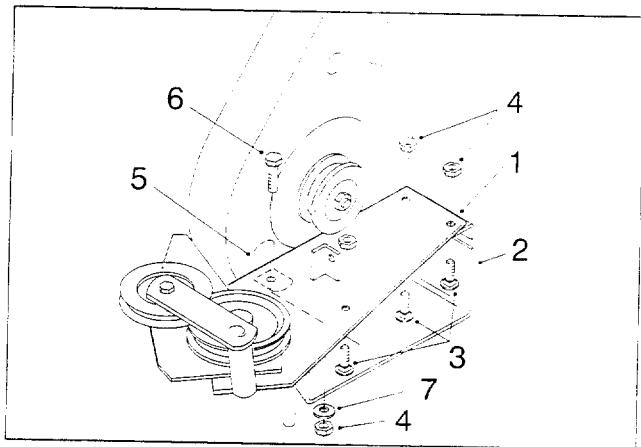

Figure 3
1. Install the blower mounting plate assembly to the blower housing using three $5/16''$ x $3/4''$ carriage bolts and $5/16''$ hex-head flange nuts (Fig. 3).
2. Install the L-shaped support bracket inside the blower housing using a $5/16" \times 1"$ hex-head bolt, $5/16"$ flat washer and $5/16"$ hex-head flange nut (Fig 3). Do not tighten the flange nut.
3. Pull the L-shaped support bracket up tight against the inside wall of the blower housing and tighten the flange nut (Fig. 3).